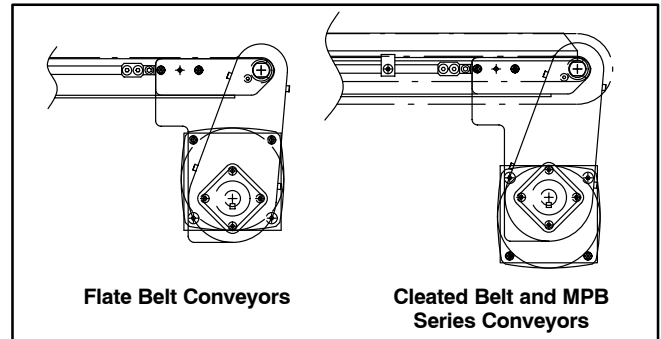

Figure 22
**NOTE:** Gearmotor position on Flat Belt conveyor shown at left (Figure 22). Gearmotor position on Cleated Belt or MPB Series conveyor shown at right (Figure 22).